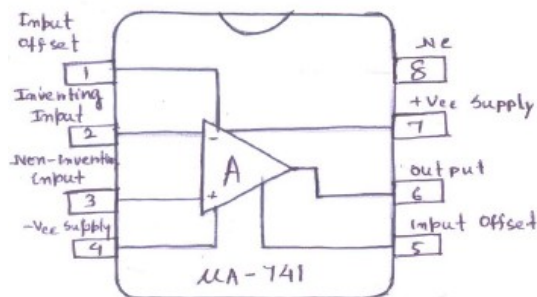

Fig.5.8 Op-amp  $\mu A-741$  Pin configuration
**Familiarity with IC741:** Pin diagram of IC 741 is shown in Fig.5.8